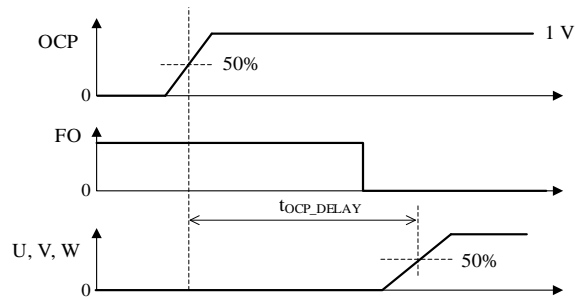

Figure 5-1. OCP Pin Detection Delay Time Definition
(2) Figure 5-1 provides the definition of the OCP Pin Detection Delay Time.